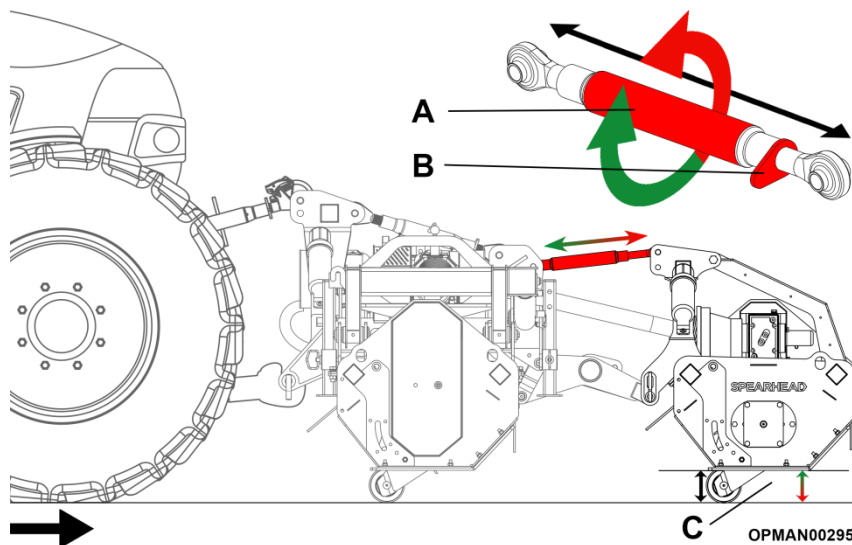

Figure 4.20 – Trident Mounted Front/Rear Cowl Levelling
- 4.7.2.3 Measure from the bottom of each end of the skids to the ground; see Figure 4.20 (C) to see if the machine is level.
- 4.7.2.4 Loosen the locking collar on the top link between the centre chassis and front/rear cowl; see Figure 4.20 (A) and turn the barrel (B).